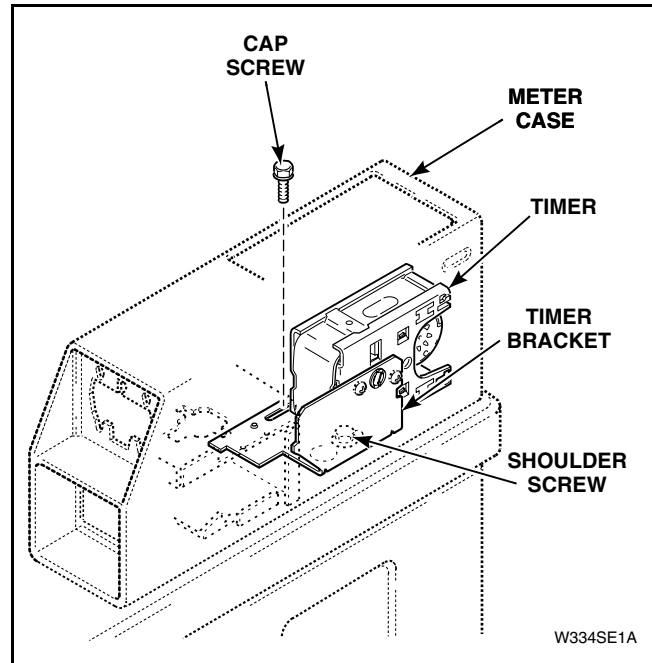
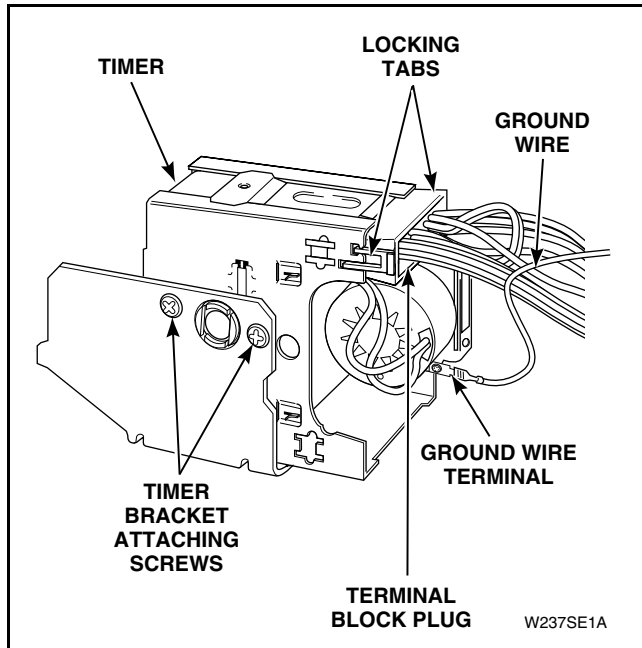

Figure 9
Figure 10
- (1) Unlock and remove meter case service door.
- (2) Remove timer bracket cap screw. Refer to *Figure 9*.
- (3) Slide timer and bracket toward rear of meter case to disengage bracket from shoulder screw. Lift timer and bracket out of meter case through service door opening as far as wires will permit.
- (4) Disengage wire harness terminal block plug from timer by pressing in movable locking tabs (located on each side of terminal block plug). Refer to *Figure 10*. Then pull terminal block plug away from timer.
- (5) Disconnect ground wire from terminal on timer. Refer to *Figure 10*.
- (6) Remove two screws holding timer to timer bracket. Refer to *Figure 10*.
- (2) Attach timer to timer bracket using two screws. Refer to *Figure 10*.
- (3) Reconnect wire harness terminal block plug and ground wire to timer.
- (4) Carefully place timer and timer bracket down inside meter case so keyhole slot in bracket fits over the head of shoulder screw. Refer to *Figure 9*.
- (5) After positioning timer bracket over shoulder screw, slide timer and bracket forward until bottom front of bracket contacts rear of coin vault in meter case. Refer to *Figure 9*.
- (6) While holding timer bracket up against rear of coin vault, install cap screw and tighten firmly. Refer to *Figure 9*.
- (7) Make sure wire harness is routed along bottom of meter case so it will not interfere with any moving parts in meter case.